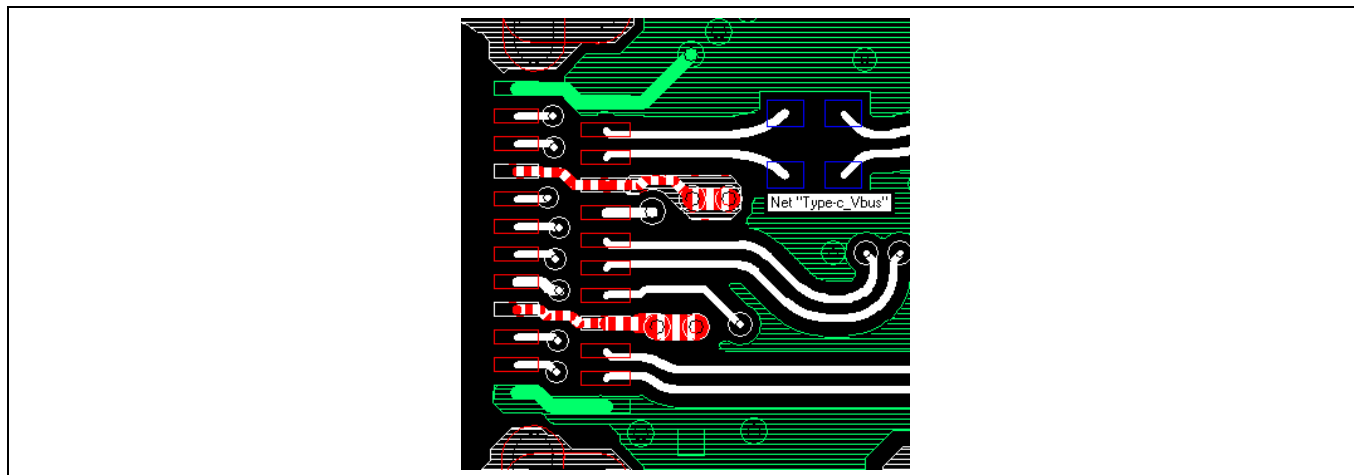

Figure 9 All VBUS pins are grouped together
- Group the VBUS pins together (all VBUS pins are brought out to the same plane using vias) as shown in Figure 9.